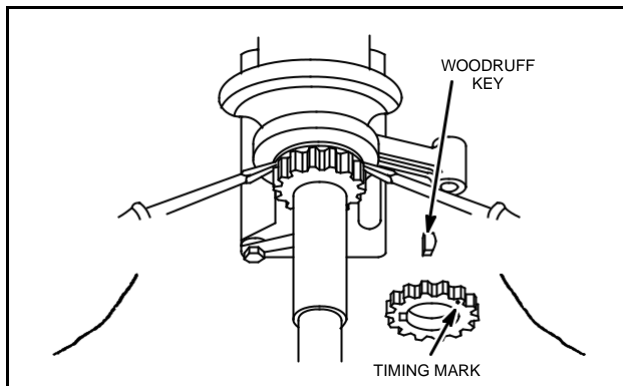

Fig. 189 - REMOVING CRANKSHAFT GEAR
**NOTE:** Save timing gear key on Model Series 171700. On current production Model Series 252700, 253700, 255700, 256700, and all 280000 engines the woodruff key can be removed, if required, Fig. 189.